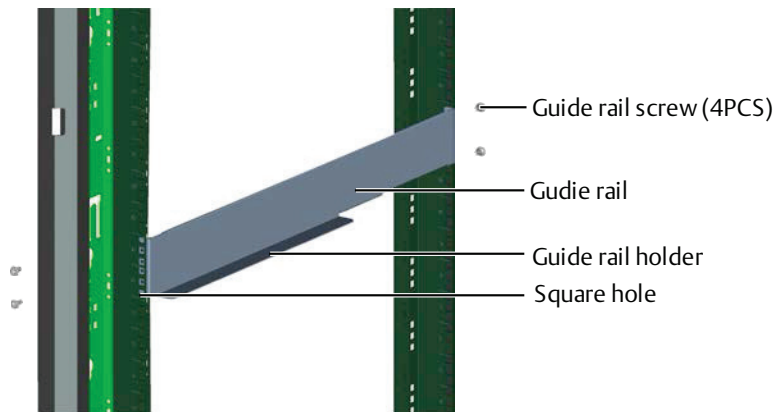

Figure 3-4 Installing the guide rail
- 3) Align the installation holes of the guide rail with the square holes of the rack, fix the guide rail onto the rack through the provided guide rail screws, the left guide rail and the right guide rail need four guide rail screws respectively, as shown in Figure 3-4.